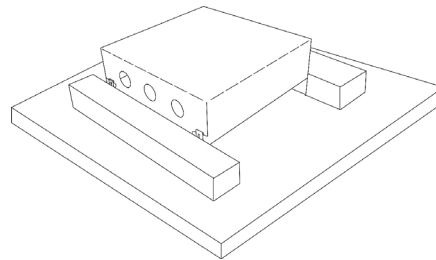

Fig. 5
7. The assembled insulation guard can now be fitted over the back of the luminaire in the loft void – Fig 5 in preparation for the installation of the loft insulation.